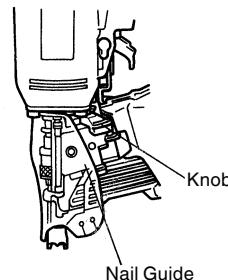

Fig. 21
- (1) Occasionally clean the knob sliding part and then apply the recommended oil. (See Fig. 21)